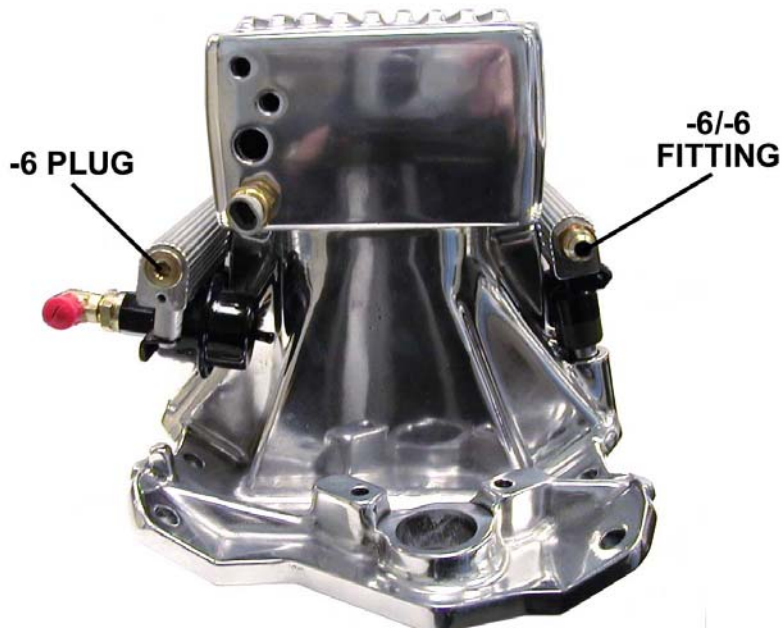

Figure 2
3. The rear driver's side fuel rail should have a -6/-6 fitting already installed. The rear passenger side fuel rail should have a -6 plug installed. See Figure 2. Make sure these fittings are tight.